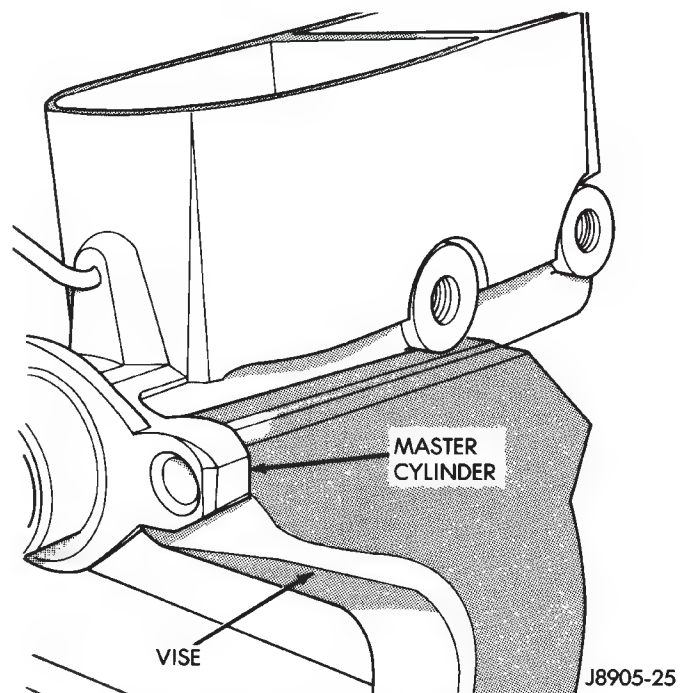

Fig. 3 Mounting Cylinder In Vise
(1) Examine cylinder cover seal. Discard seal if torn or distorted.
(2) Clamp cylinder in vise (Fig. 3).